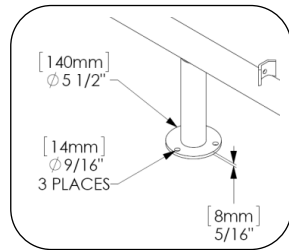
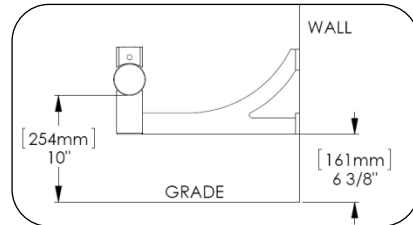

Fig. 5 – Surface Mount
Fig. 6 – Wall Mount Up for backed seats
2. Mark hole locations. See Fig. 5 for surface mount plate details. See Figs. 6, 7 and 8 for wall mount details.